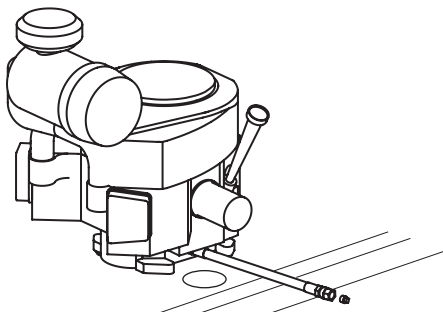

Figure 19
2. Locate the oil drain hose on the engine. See Figure 19.
4. While holding the free end of the oil drain hose over the oil collection container, unscrew the square-head hose plug from the end of the hose. See Figure 19. Drain the engine oil into the collection container.